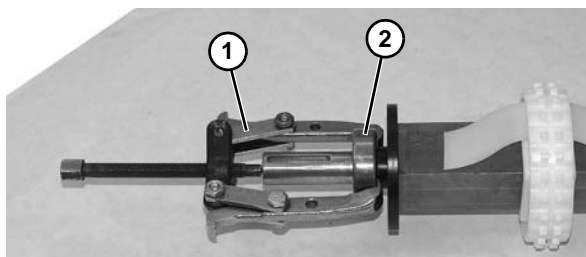

Figure 55
12. Using puller (Figure 55, item 1), as shown, remove bearing (Figure 55, item 2) from shaft assembly. Repeat on opposite side, if needed.